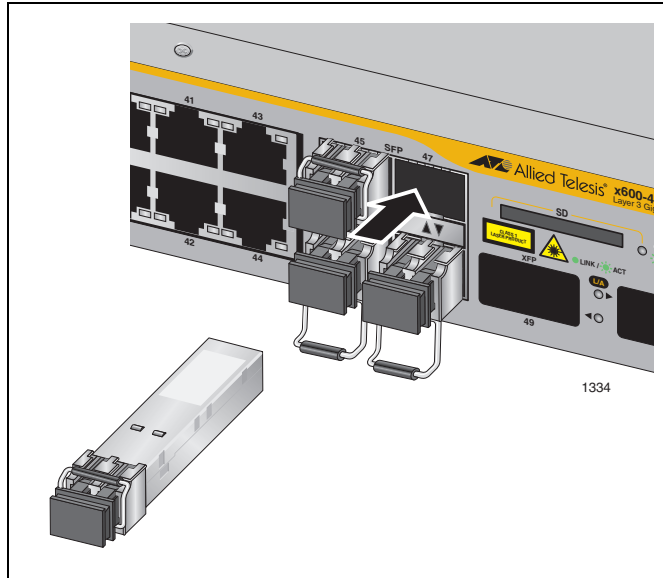

Figure 43. Positioning SFP Handles on the x600-48Ts and x600-48Ts/XP Switches
6. For the x600-48Ts and x600-48Ts/XP switches, verify that handles on the top two SFP modules are in the up position and the bottom two SFP modules are in the down position as show in Figure 43.